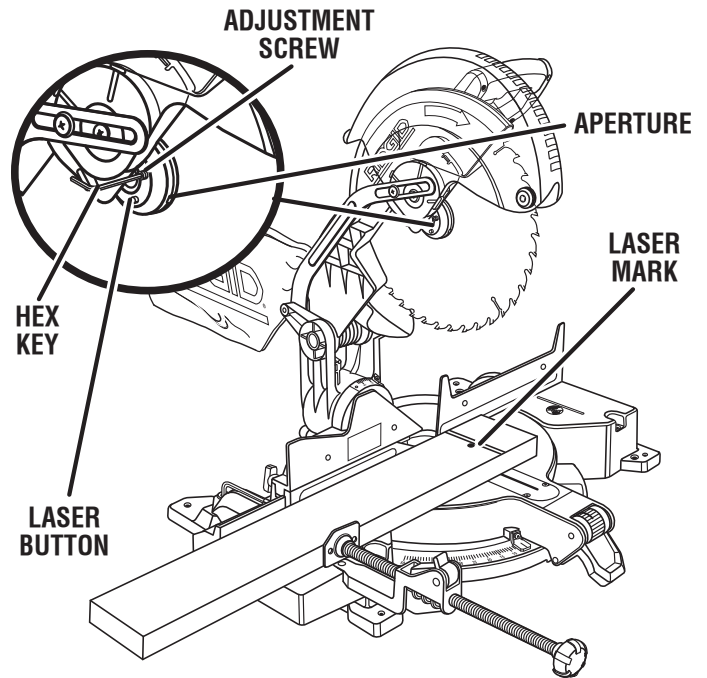

Fig. 36
See Figure 36.
- Rotate the blade by hand until you can push and hold the laser button and the laser mark is near the center of the workpiece as shown in figure 36.
- To adjust the laser, turn the adjustment screw counter-clockwise or clockwise using the hex key (1/16 in.) provided.